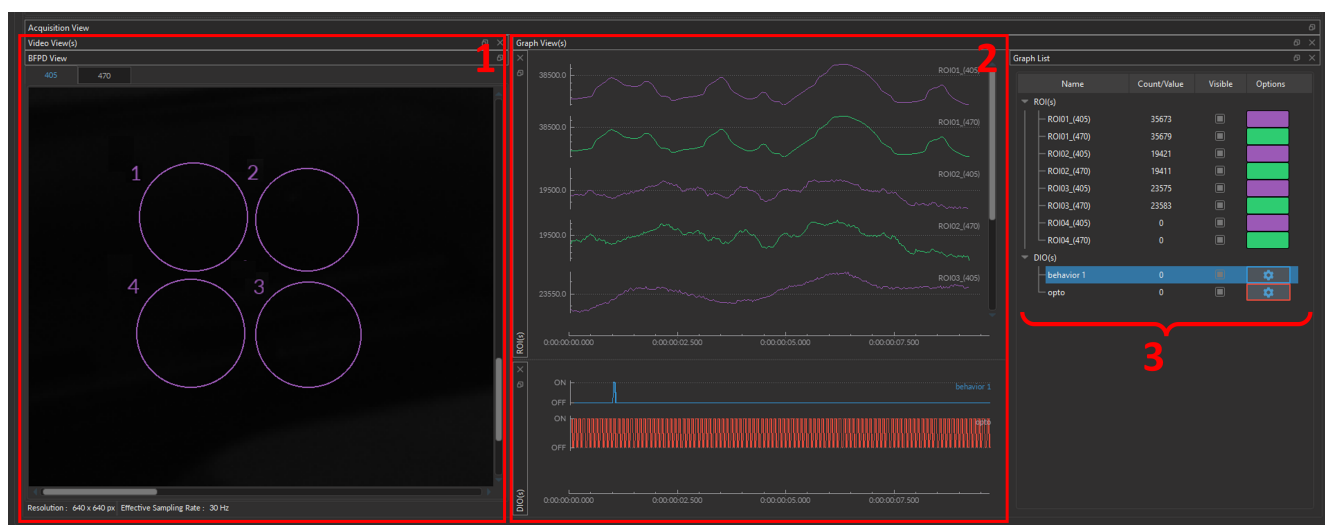

Figure 10.43: Acquisition View
The **Acquisition View** (Fig. 10.43) is split into separate divisions, each of which visualizes different types of data in the following sections:
1. The **BFPD View** (Fig. 10.43, 1) - Section 10.5.1;
2. The **Graph View** (Fig. 10.43, 2) - Section 10.5.2;
3. The **Graph List** (Fig. 10.43, 3) - Section 10.5.3.